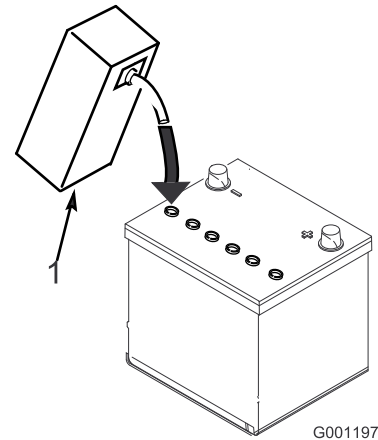

Figure 6
3. Carefully fill each cell with electrolyte until the plates are covered with about 1/4 inch (6 mm) of fluid (Figure 6).
4. Allow approximately 20 to 30 minutes for the electrolyte to soak into the plates. Fill as necessary to bring the electrolyte to within about 1/4 inch (6 mm) of the bottom of the fill well (Figure 6).